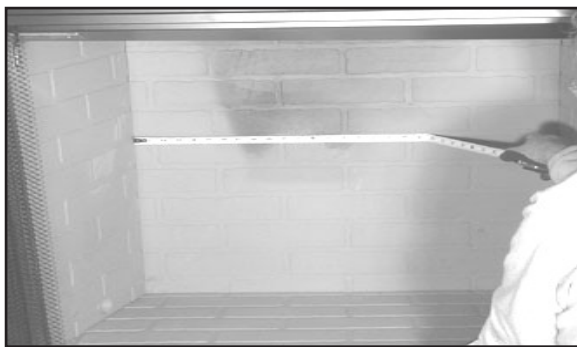

Figure 2.1 Measure Firebox
- Review the attached tags before proceeding. Ensure that all minimum fireplace dimension requirements are achieved using one of the Tables in Section 1.B. See Figure 2.1. Ensure the gas type provided in the fireplace coincide with the gas type marked on the tag.